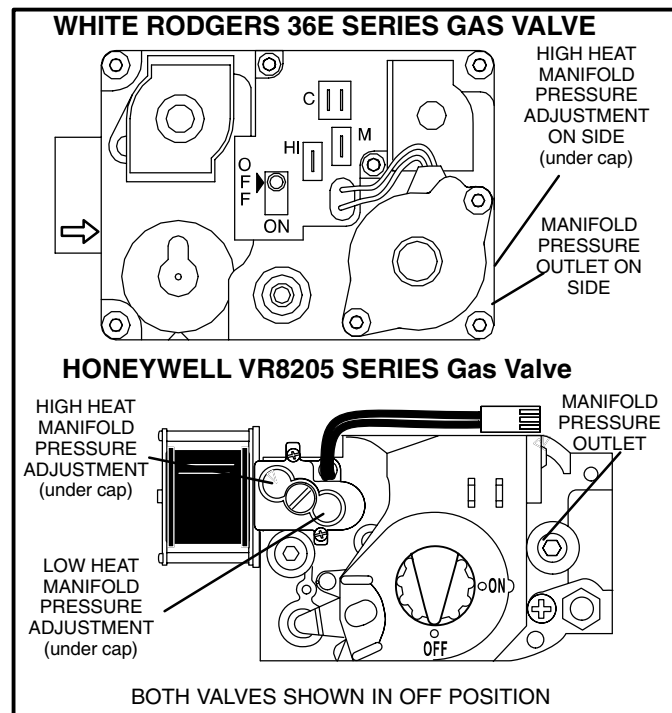

FIGURE 37
#### How To Operate Gas Valve (Figure 37)
- 6 - *White Rodgers 36E Gas Valve*, switch lever to **OFF**. Do not force. See figure 37.
- 7 - Wait five (5) minutes to clear out any gas. If you then smell gas, **STOP!** Immediately call your gas supplier from a neighbor's phone. Follow the gas supplier's instructions. If you do not smell gas go to next step.